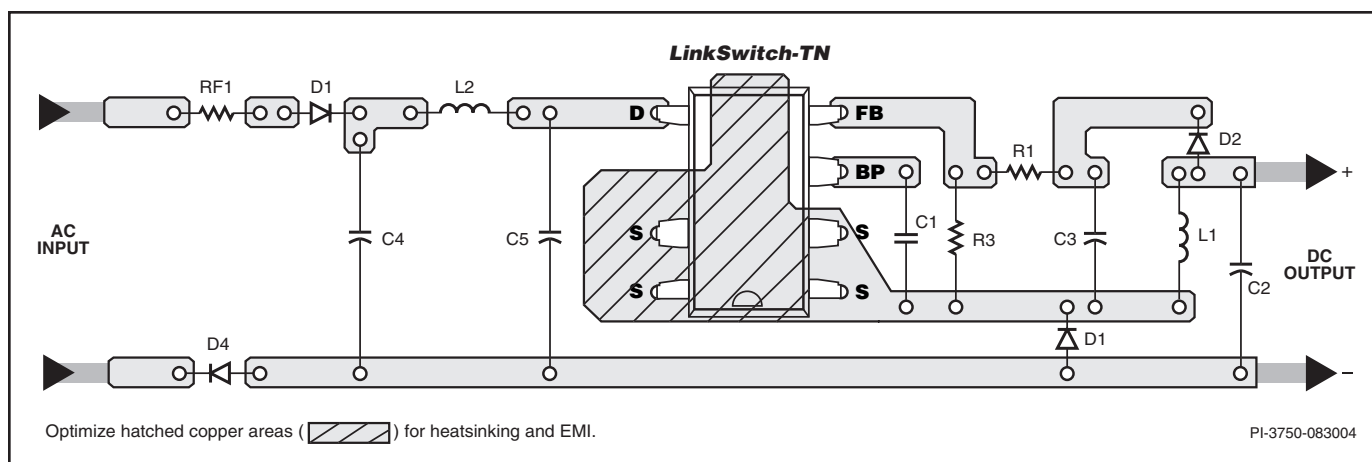

Figure 6. Recommended Printed Circuit Layout for LinkSwitch-TN in a Buck Converter Configuration.
The loop formed between the LinkSwitch-TN, inductor (L1), freewheeling diode (D1), and output capacitor (C2) should be kept as small as possible. The BYPASS pin capacitor C1 (Figure 6) should be located physically close to the SOURCE (S) and BYPASS (BP) pins. To minimize direct coupling from switching nodes, the LinkSwitch-TN should be placed away from AC input lines. It may be advantageous to place capacitors C4 and C5 in-between LinkSwitch-TN and the AC input. The second rectifier diode D4 is optional, but may